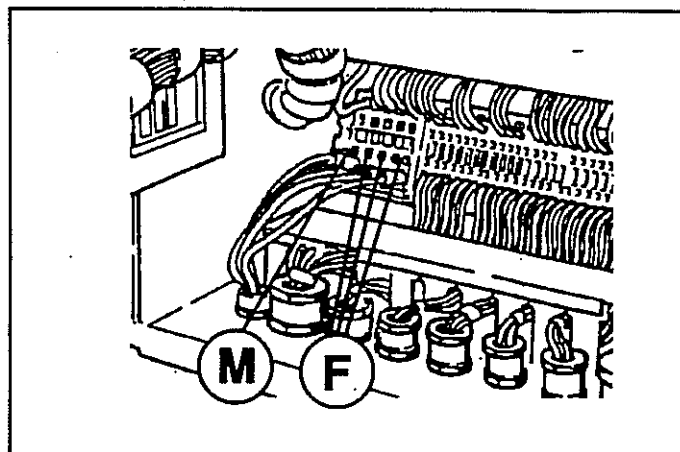

Fig.2.17
Connect the electric wires of the 3 phases (F fig.2.17) of the earth (M) and of the neutral if necessary.